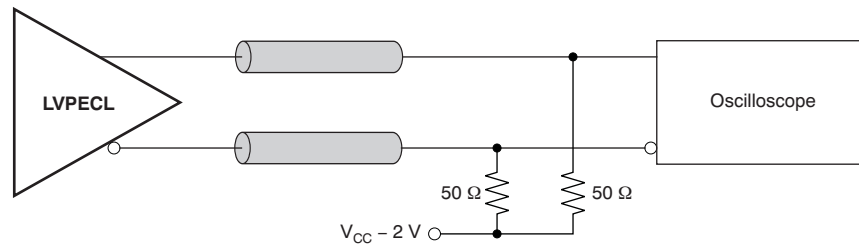

Figure 10. LVPECL Output DC Configuration During Device Test
(1) Figure 10 and Figure 11 show DC and AC test setup.
(2) Internally generated bias voltage ( $V_{AC\_REF}$ ) is for 3.3-V operation only. TI recommends applying externally generated bias voltage for  $V_{CC} < 3\text{ V}$ .